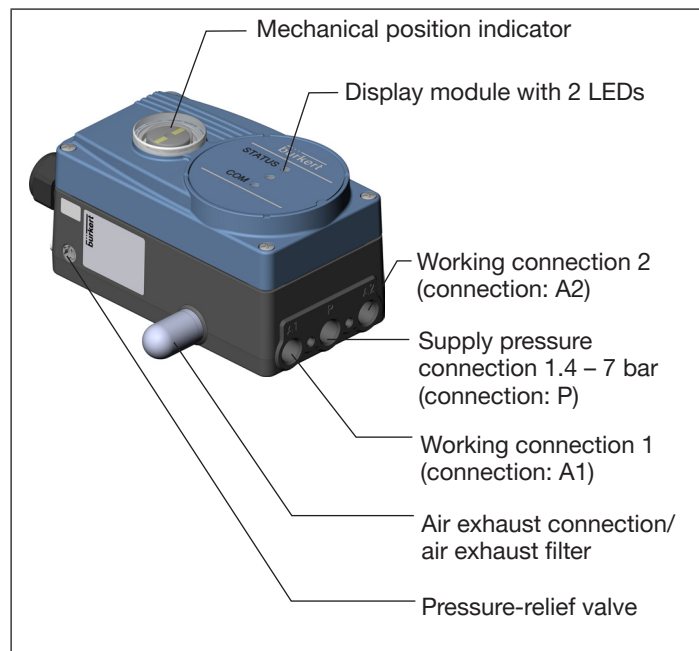

Fig. 1: Structure, positioner Type 8791
1) If the positioner is used under IP67 conditions, the ventilation filter (see "Fig. 1") must be removed and the exhaust air conducted into the dry area.